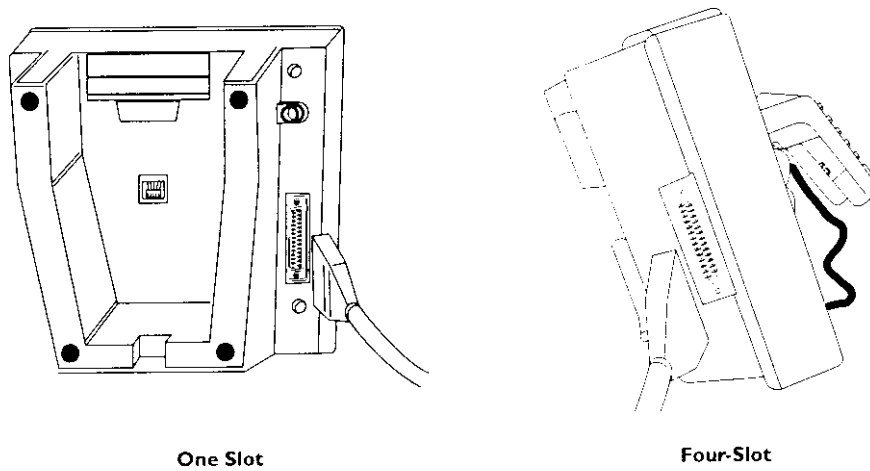

Figure 2-2. Plugging Serial Connector into Single-Slot and 4-Slot Cradles
1. Plug the RS-232 serial cable's DB-25 connector in the cradle's communication port. The port is located on the back, right-hand side of the single-slot cradle, and on the left side of the 4-slot cradle (Figure 2-2).